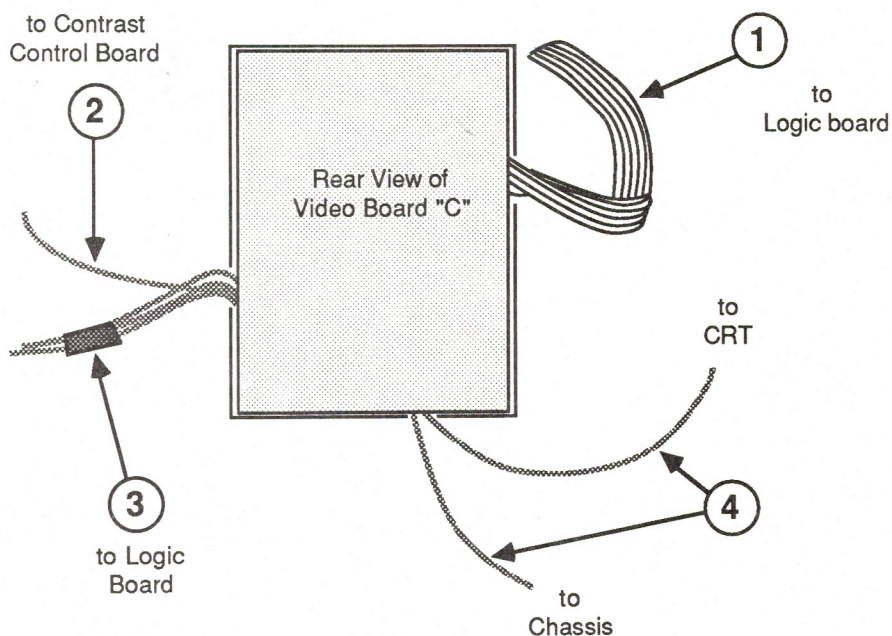

FIGURE 12
- D2, coming from the right side of the video board "C" (Figure 12, #1).
- D7, coming from the left side of the video board "C" (Figure 12, #3).
6. Disconnect the cable at location V-5 on the contrast control board (Figure 12, #2).
7. Disconnect the two black cables from the bottom of the video board "C" at their midpoint connectors (Figure 12, #4).